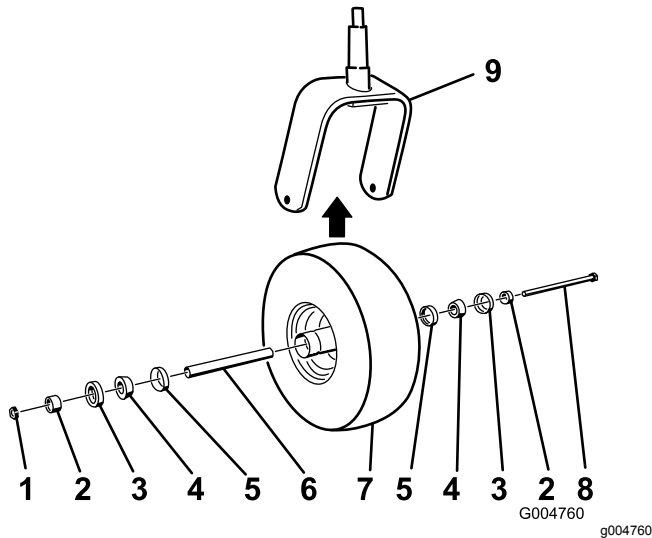

Figure 41
2. Remove the locknut from the bolt (Figure 41).
5. Assemble the caster wheel by pushing the cone bearings and seals, packed with grease, into the wheel hub, positioned as shown in Figure 41.